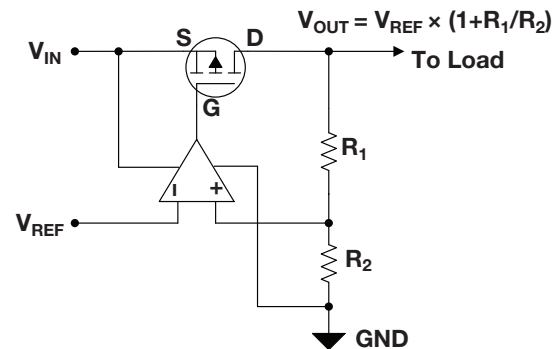

Figure 2: A PMOS LDO.
**Figure 2** shows a PMOS LDO architecture. In order to regulate the desired output voltage, the feedback loop controls the drain-to-source resistance, or  $R_{DS}$ . As  $V_{IN}$  approaches  $V_{OUT(nom)}$ , the error amplifier will drive the gate-to-source voltage, or  $V_{GS}$ , more negative in order to lower  $R_{DS}$  and maintain regulation.